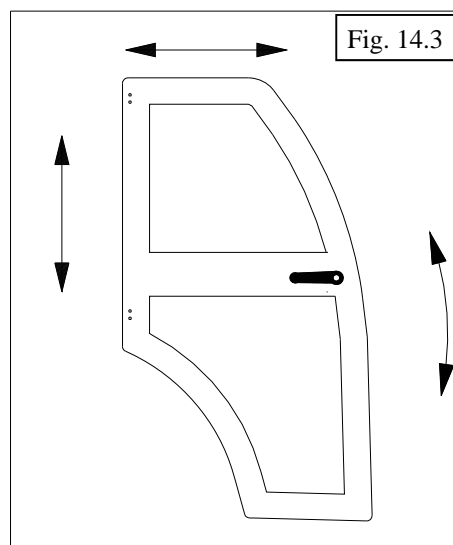

Fig. 14.3
14.3 Per fig. 14.3, the 1/4-20 hex head bolts on the door hinges can be loosened on the rear tube, or on the door itself, or in both places, in order to rotate or move the door up or down and forward or backward as necessary for proper alignment with side frame. Note: An assistant will be needed for this step. Keep the hinge sleeves fully seated on the pin hinges. Tighten all hinge bolts using caution to **not** over tighten. Over tightening will crush (damage) the structural tubing. **Torque to 40 inch/pounds.**